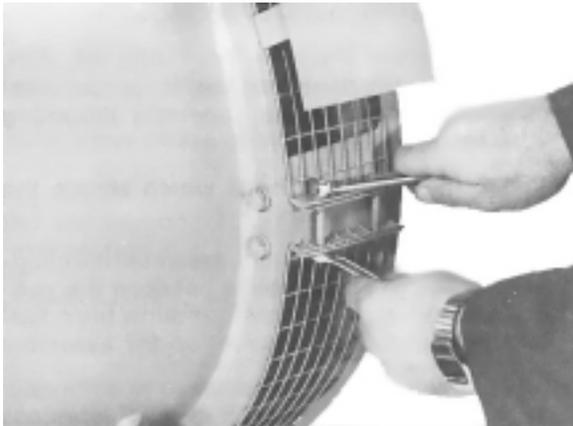

Figure 6-79
2. For single bearing generators, if the screen assembly is mounted on the adapter, remove the mounting bolts and remove the screen. (Figure 6-79.)